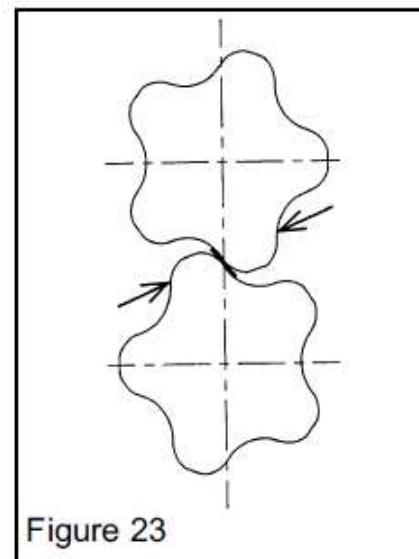
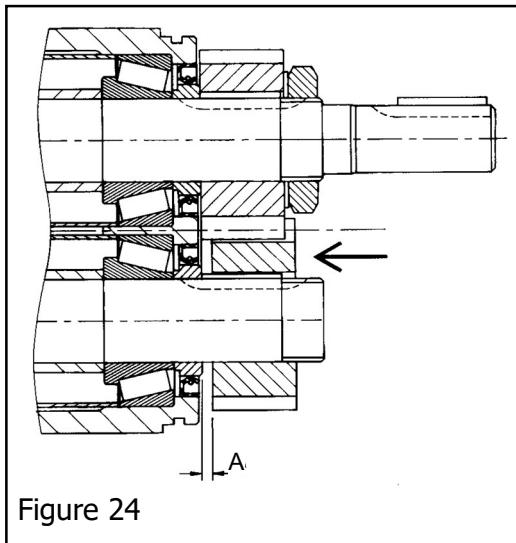
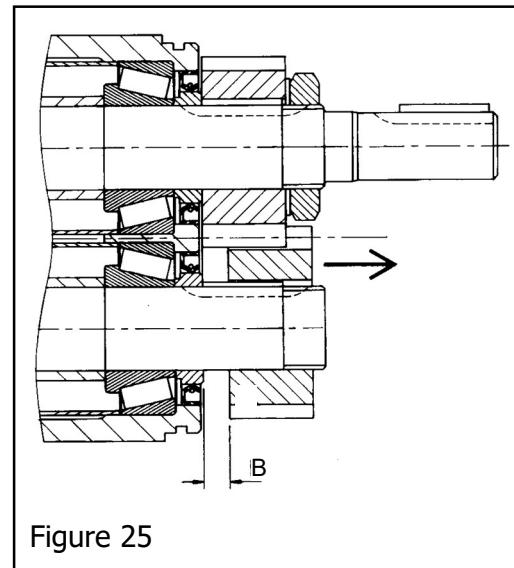

Figure 23
Figure 24
Figure 25
b) Pinch a 0.15mm (0.006 inch) feeler blade between two lobes - see Figure 23.
c) Push both gears forward. If both gears contact their gear spacers, fit tab washers (11) and nuts (12) to both shafts, then continue from (d) below.
If one gear leaves a gap "A" - see Figure 24 - measure this gap with feeler gauges. Fit tab washer (11) and nut (12) to the other shaft, hand tight only. Still gripping the feeler between the rotors, pull the loose gear back and measure the gap "B" - see Figure 25.